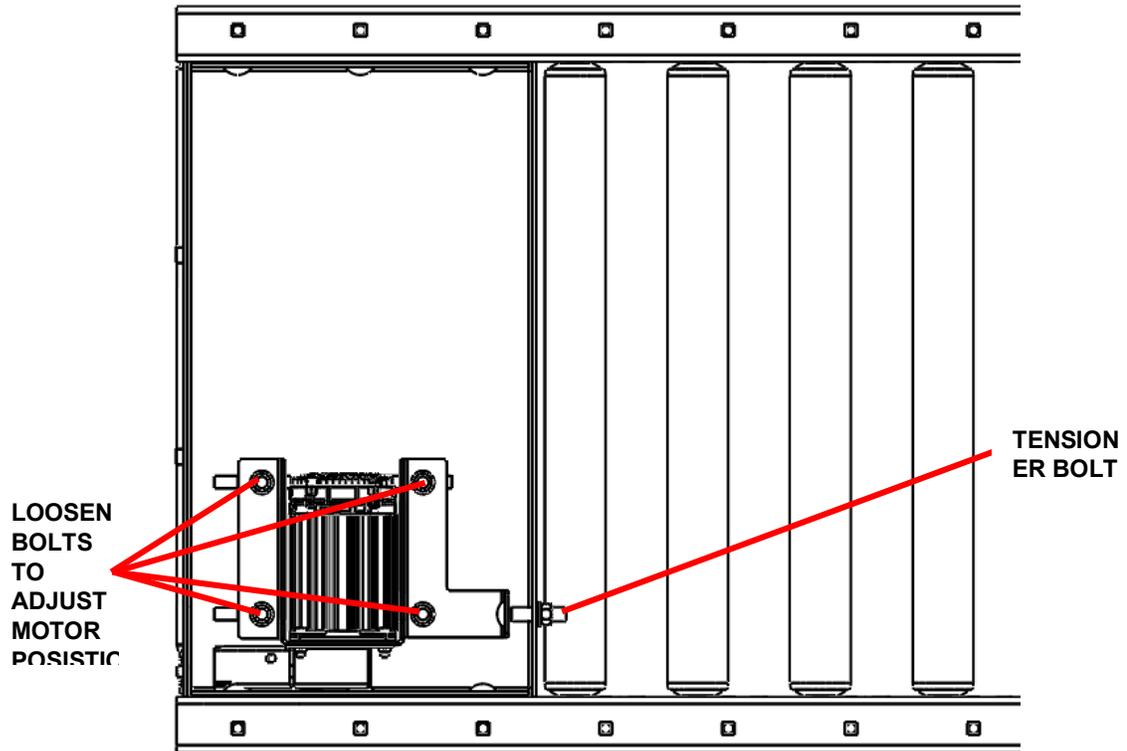

Figure 8: Underside View of BRBDC
2. Relax the drive belt tension by loosening (4) bolts and the tensioner bolt as shown in Figure 8.
7. Tension the drive band by tightening the tensioner bolt as shown in Figure 8 and torquing the mounting bolts to 31ft-lbs. Band should be tensioned enough so that it does not slip during operation.
2. Relax band tension by first loosening (4) bolts and then the tensioner bolt as shown in Figure 8.
7. Tension drive band by tightening tensioner bolt (refer to Figure 8) until band is taut.
8. Fasten motor bracket to BRBDC bed spacer by torqueing (4) bolts within slots to 31ft-lbs as shown in Figure 8.
11. Tension drive band by adjusting tensioner bolt (refer to Figure 8) until band is taut.
12. Fasten motor bracket to BRBDC bed spacer by torquing (4) bolts within slots to 31ft-lbs as shown in Figure 8.